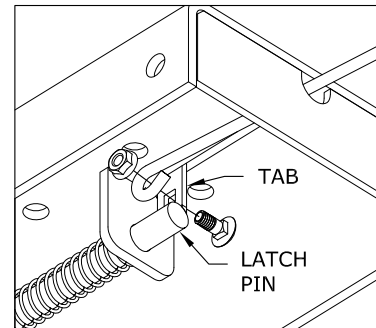

Figure F2: Handle Installation
2. Secure the handle to the pin with the 5/16" X 3/4" carriage bolt and 5/16" locking flange, see Figure F2. Note: The included 5/16" cap screw can replace the carriage bolt if wrench access on the "cab side" of the handle is limited. Tighten the nut until it is secure. Do not over-tighten and deform the handle eyelet.